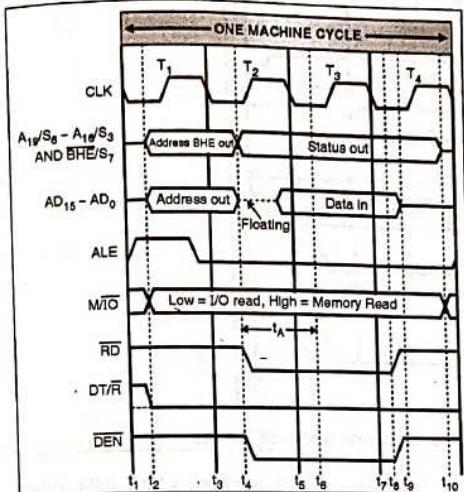

Fig. 3.7.1(a) : Timing diagrams for the read machine cycle of 8086
- Fig. 3.7.1(a) shows the timing diagram which shows the activities of various signals during the read operation.